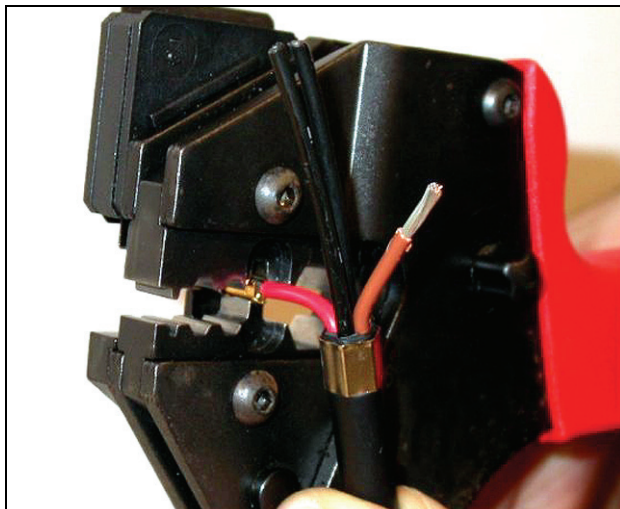

figure 30.14: Crimping a socket contact (2)
- 11 Slide one of the stripped, copper wires into the contact area of the socket contact and close the crimping tool to crimp the socket contact onto the copper wire (see figure 30.14).